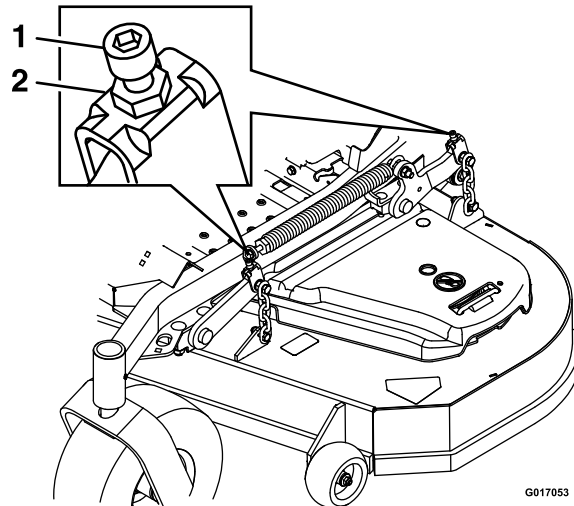

Figure 28
10. Fine tune the front deck lift assembly by turning the adjuster screw until it reaches the 3 inch (7.6 cm) height (see Figure 28). To increase the height, turn the adjuster screw clockwise; to decrease, turn counterclockwise.